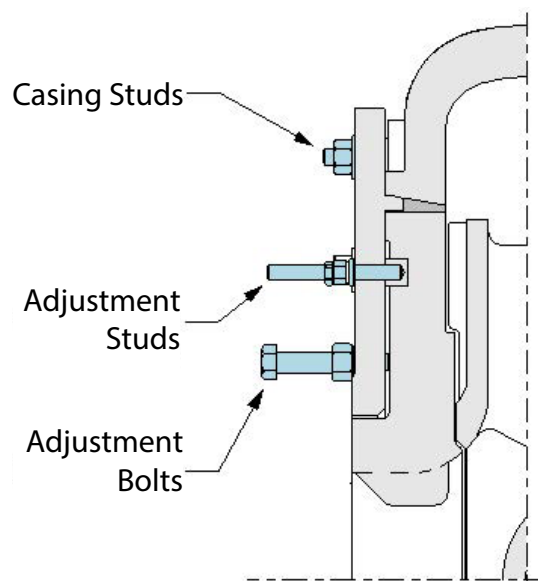

Figure 10-2: Adjustable Suction Liner
1. Loosen the adjustment bolts (see Figure 10-2) to back off from the suction liner. Unscrew them far enough to ensure that the suction liner can be retracted fully.